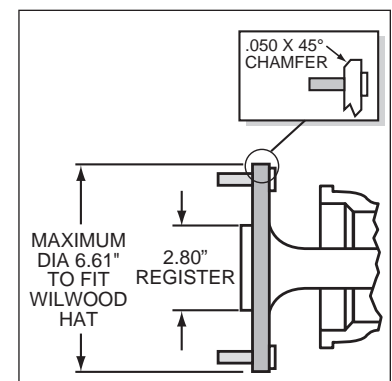

Figure 5. Axle Flange Maximum Dimension
- Maximum axle flange diameter must be no larger than 6.61" w/.050" x 45° chamfer, Figure 5.